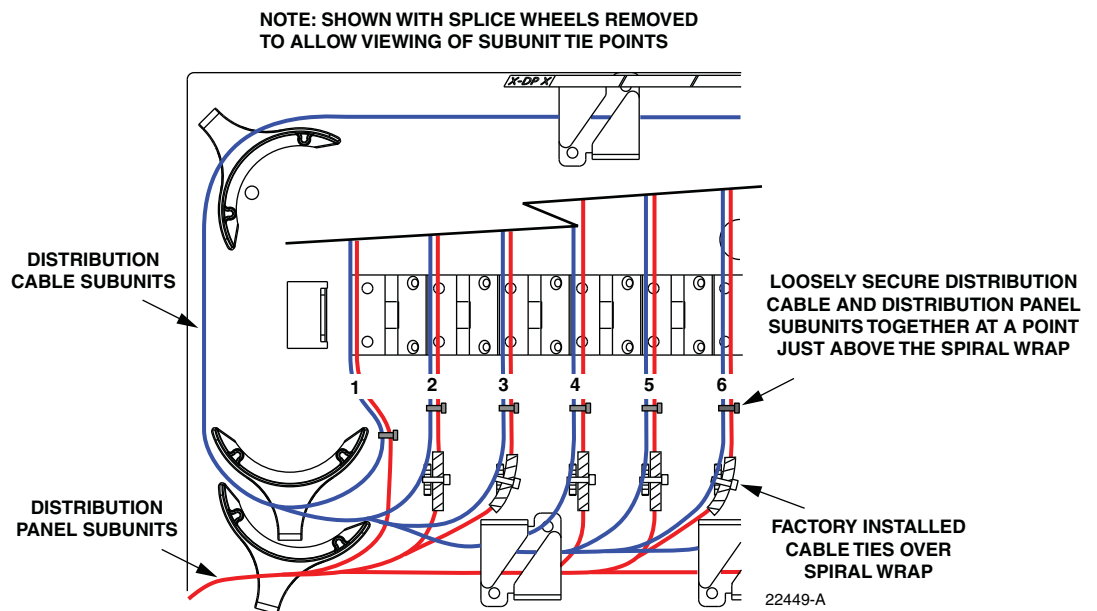

Figure 36. Securing the Distribution Cable Subunits
- Use cable ties or lacing to **loosely** secure each distribution fiber subunit to the appropriate distribution panel subunit at a point just above the spiral wrap as shown in Figure 36.